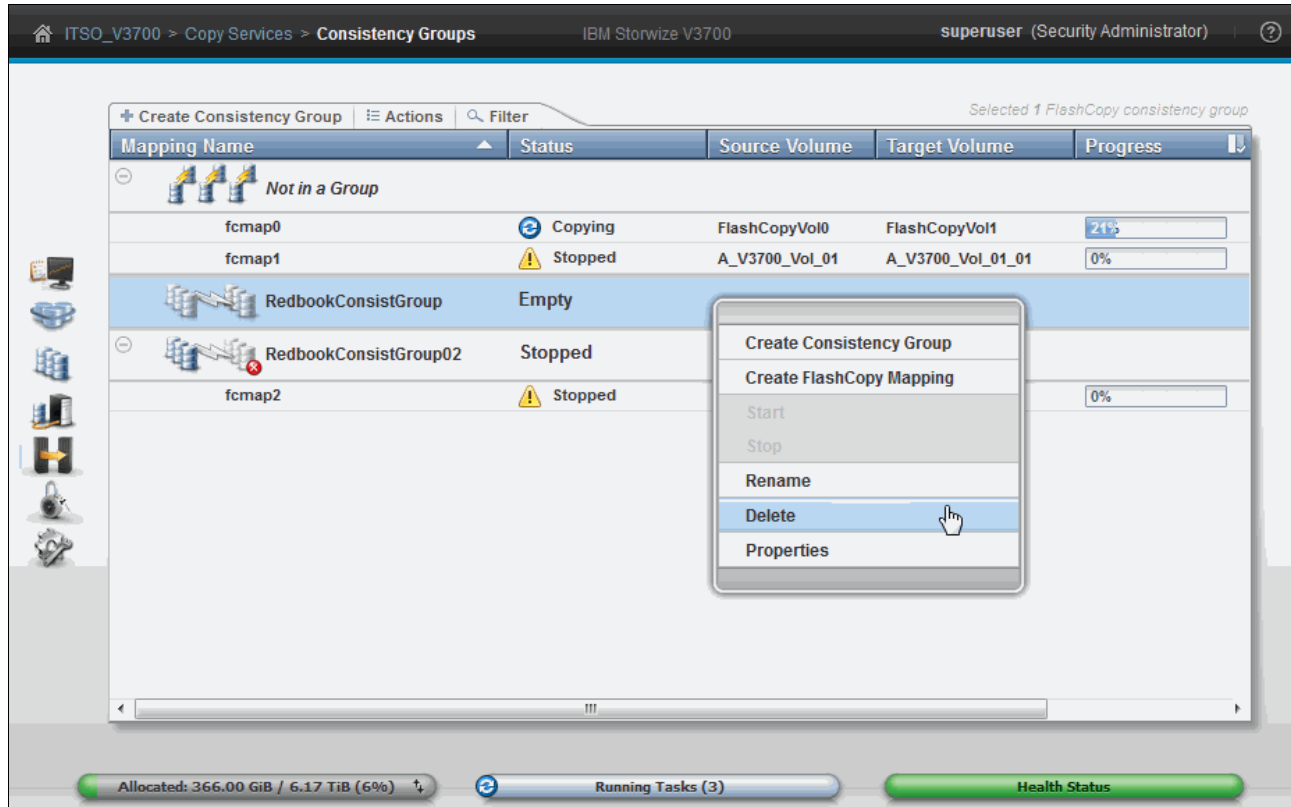

Figure 10-64 Delete a consistency group
1. Click **Delete** from the **Actions** menu, or right-click the selected group, as shown in Figure 10-64.